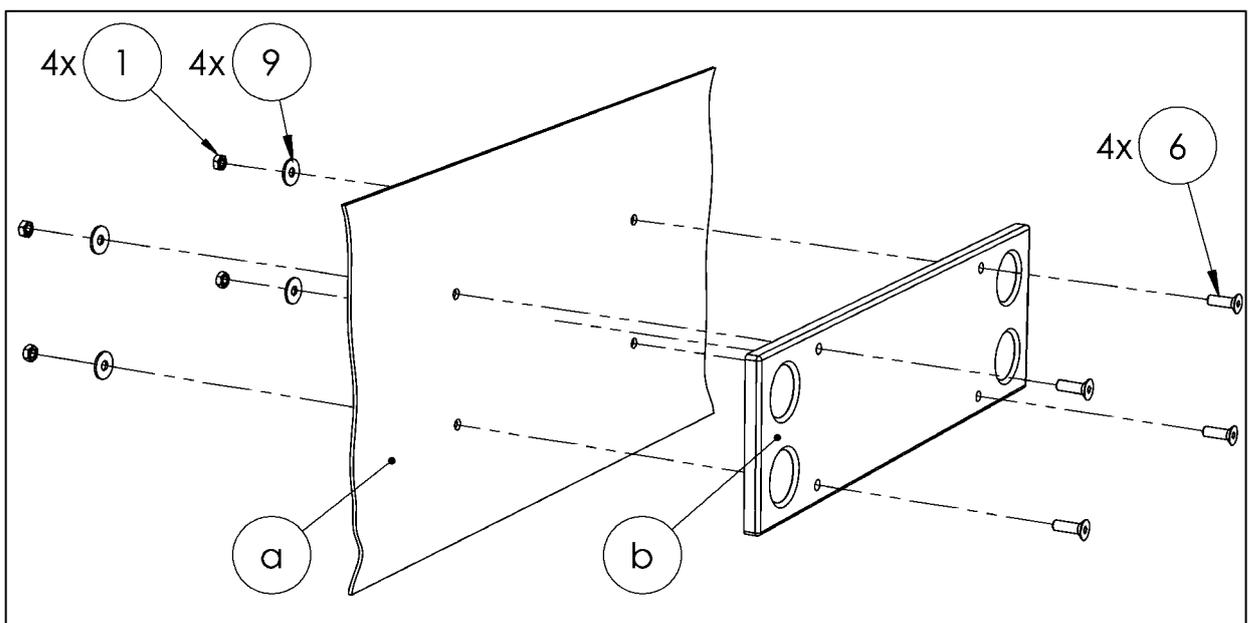
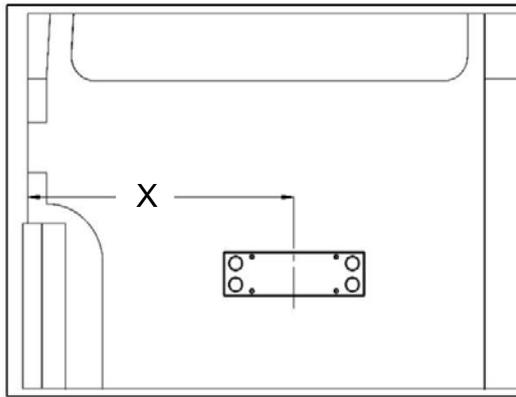

Figure 35
Figure 36
- Route the control panel cable to the cargo area so that it can be secured to the right-hand door (a). See Fig. 35.
- Secure the control panel (b) to the right-hand vehicle door (a) using the fasteners (1, 6, 9) from the **accessories kit**, maintaining a distance of 400 mm ±100 mm (15¾" ±315/16") as per specifications (see Fig. 35 and Fig. 36).